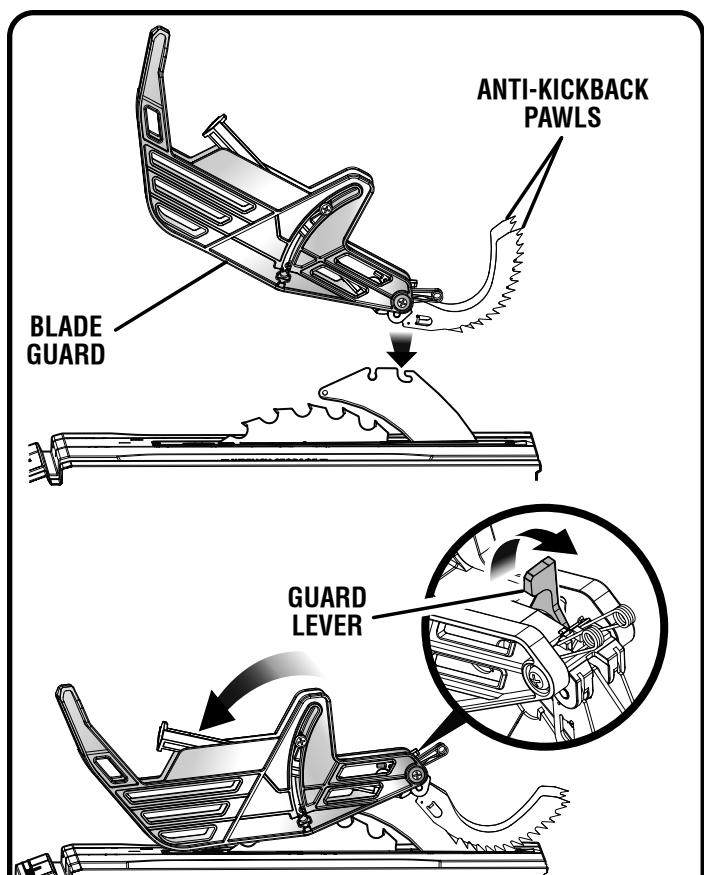

Fig. 20
See Figures 20 - 21.
- With the front of the blade guard raised, lower the back of the guard into the riving knife in the position shown. Push the front of the guard down until the bar inside the guard is **parallel to the table** (see figure 20). If the bar is not parallel to the table, the riving knife is not in the "up" position.